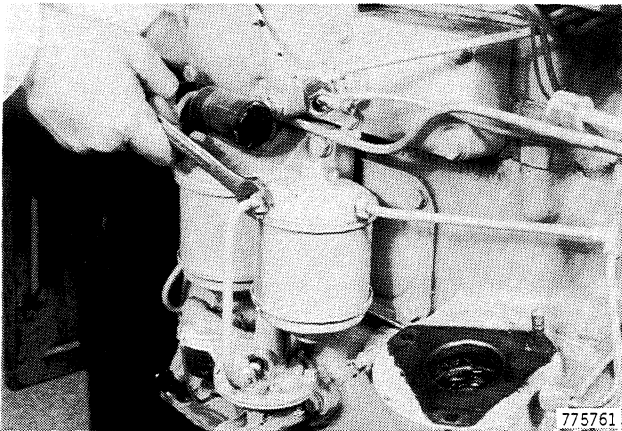

Figure 15
2. Disconnect the tube at the fuel filters, Figure 15.